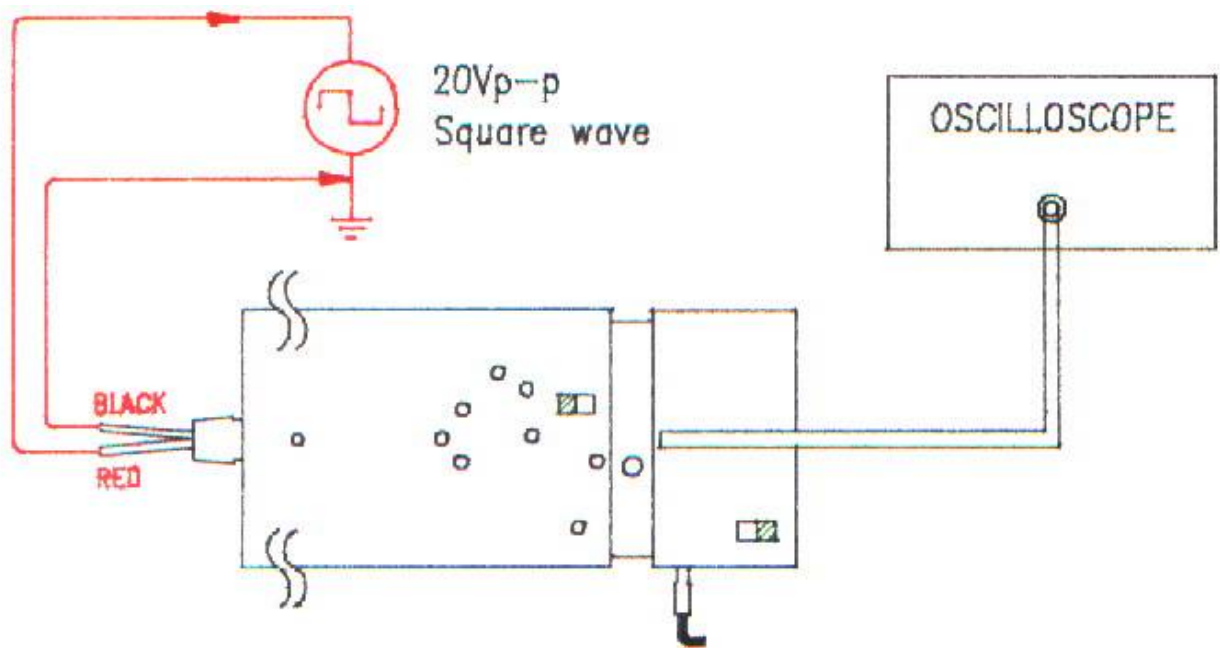

Fig. 8
- Referring to Fig. 8, connect output BNC to the oscilloscope has good grounding.